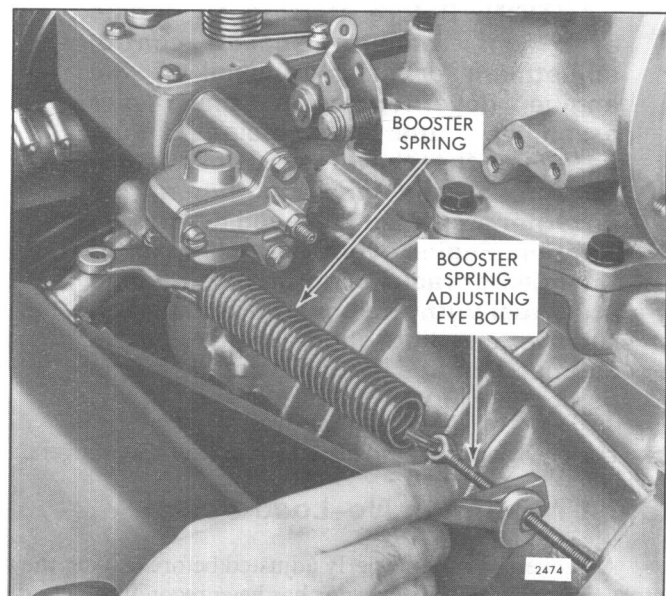

Fig. 7 – Adjusting Booster Spring
2. Refer to Fig. 7 and loosen the booster spring retaining nut on the speed control lever. Loosen the locknuts on the eyebolt at the opposite end of the booster spring.